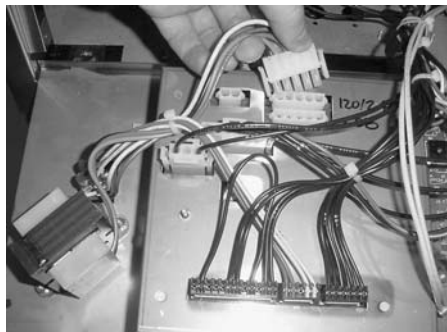

Figure 2-26
3. Remove the two wire connectors to disconnect transformer from panel. Figure 2-26.